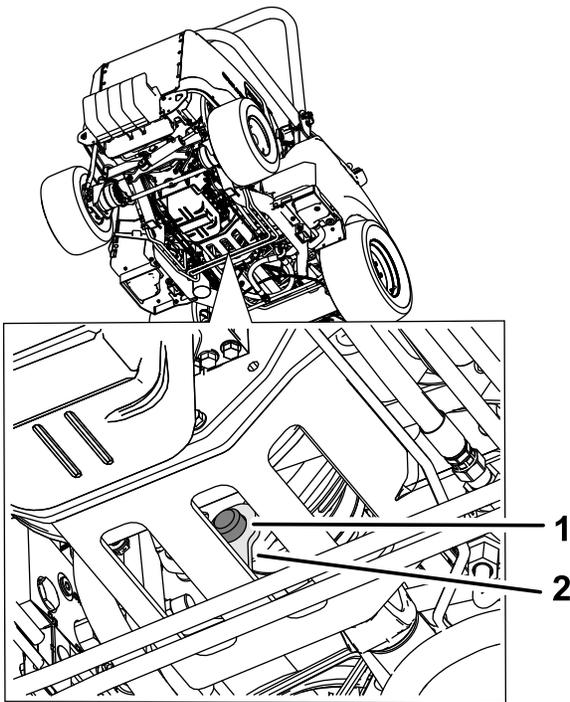

Figure 80
3. Remove the rubber bumper from the metal retainer and clutch (Figure 80).